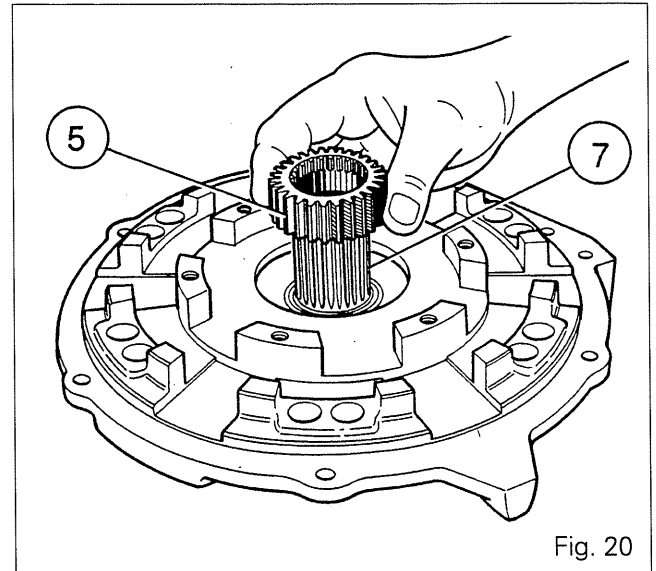

Fig. 20
57. Fit the hub (5) on the primary shaft (7), with the internal splines pointing upwards (Fig. 20). Fit the driving plates (3) and the driven plates (2).
58. Fit the two other brake discs (15), separated by the pressure plate (17).
59. Reinstall the springs (20). Fit the O-ring (73).
60. Check that the blanking plugs (23) and (29) are in place. Make sure that the supply holes to the pistons (22) and (37) in the spacer housing (21) are not obstructed.
61. Lubricate O-rings (24) and (26) and fit them respectively in the front piston (22) and in the spacer housing (21).
63. Screw two guide studs into the spacer housing (21) and position it on the front cover (13), making sure that the spacer housing lubrication hole meets up with the corresponding passage in the cover.